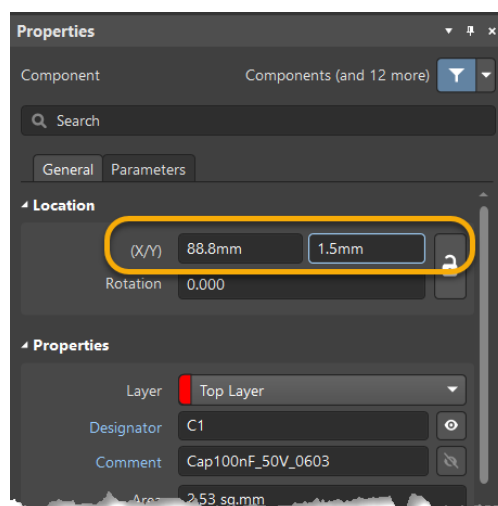

Figure 16. Placing C1 at a specific location on the board
- b) Change the (X/Y) position to (88.8mm, 1.5mm) as shown in Figure 16.